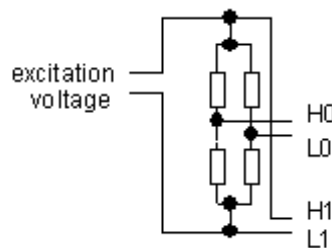

Fig. 1
2. **Resistive bridges** – typical example is a strain gauge. The bridge requires excitation voltage and differential input of the AD converter which senses output voltage. Typical connection to the AD24USB shows fig. 1.